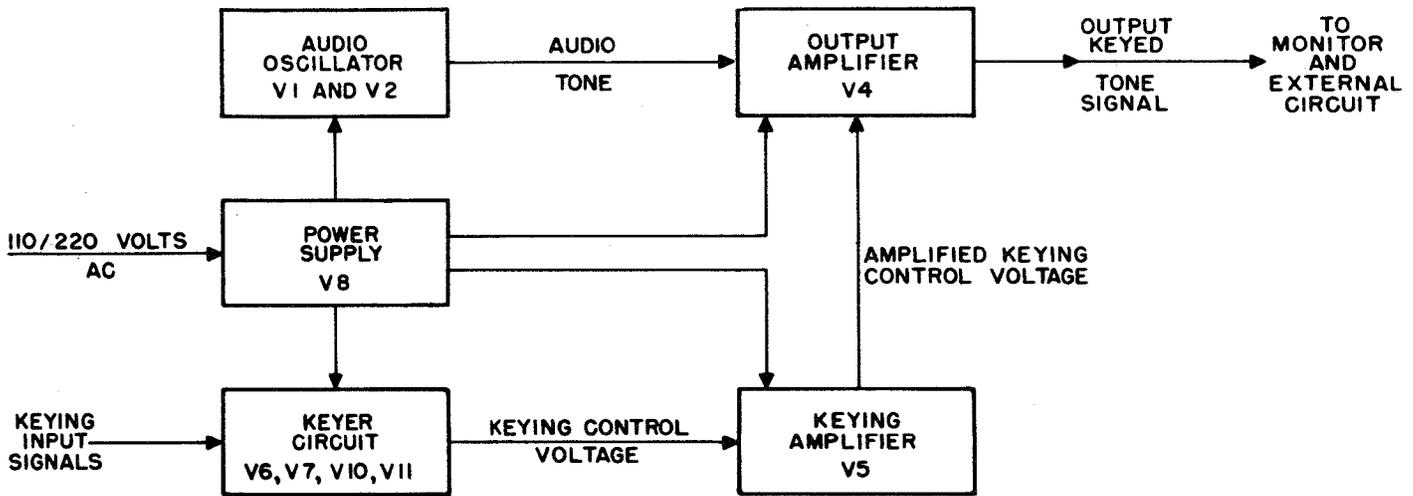

Figure 2-24. Keyer KY-79/UR, Block Diagram
b. BLOCK DIAGRAM DESCRIPTION. (See figure 2-24.)—The keying input signal is applied to the keyer circuit, consisting of tubes V6, V7, V10 and V11, where it is converted to suitable keying control voltage for the output stage. The control voltage is amplified in the keying amplifier tube V5, and fed to the output amplifier stage V4. An audio tone produced in the oscillator tubes V1 and V2 is also applied to the output amplifier stage V4. The keying control voltage keys the audio tone in tube V4 on and off. The power supply converts the available electrical power to power suitable for use in Keyer KY-79/UR.